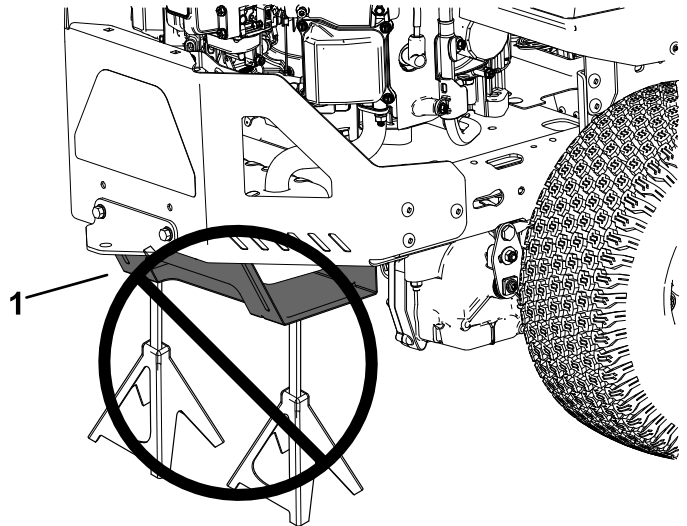

Figure 36
Supporting the machine on the lower muffler shield (Figure 36) may damage the shield and cause the machine to fall, injuring you or bystanders.
4. Loosen the hose clamp and remove the paper element (Figure 36).